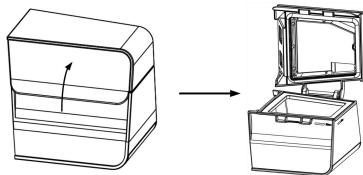

Fig. 14-6
- (1) **Removing the water chamber** according to instructions in 14.1.1.
- (2) **Emptying the water chamber:** Open the cap, as shown in Fig. 14-6, and pour any remaining water out of the water chamber.